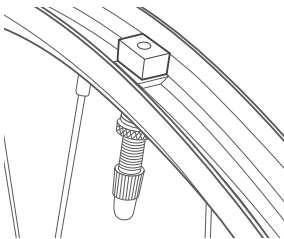

Figure 3. Correct alignment. Flat sides of valve are aligned with rim wall.
5. Align the flat sides of the valve base with the walls of the rim (Figure 3 & 4).